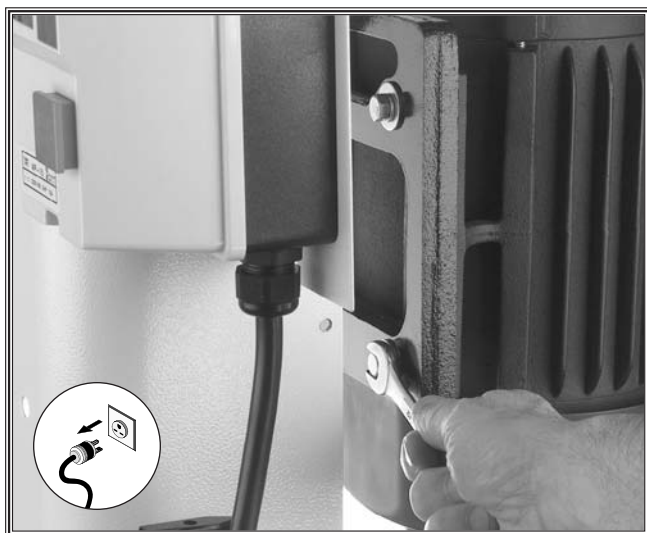

Figure 27. Loosening motor mount bolts.
4. If the motor pulley is not aligned with the spindle pulley, loosen the four motor mount bolts as shown in **Figure 27**.